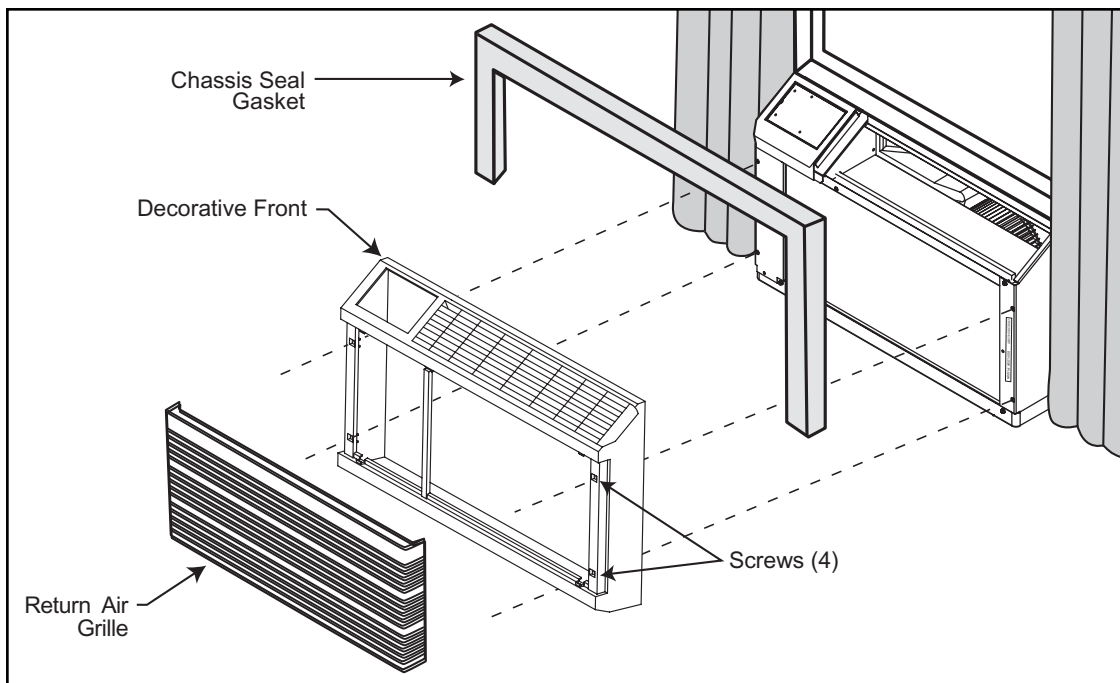

Figure 11
STEP 5 CHASSIS SEAL GASKET INSTALLATION: After installing the shell, slide the chassis into the shell stopping approximately 3" from full insertion. Stuff the chassis seal gasket one inch deep between the chassis and the shell (see Figure 11). Make sure the gasket is installed beginning from the lower right side corner and extending over the top and down to the lower left side corner. Then push the chassis all the way into the shell for the remaining distance so that the plastic front meets the front edge of the shell.
STEP 6 Remove the intake grille from the decorative front frame by grasping it at the upper right and left side corners. Pull out until the grille is released from the upper retaining snaps. Tilt it down toward you, lift up and out of the bottom retaining snaps. Install the decorative front frame in place over the sleeve opening and attach it to the chassis with four sheet metal screws as shown in Figure 11. Replace the intake grille by positioning the bottom of the grille into the bottom retaining snaps. Tilt the front up and away from you. Press in lightly on top, and the grille will position itself into upper retaining snaps.